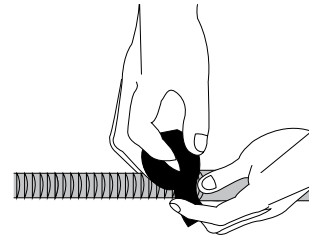

FIG. 4.11
3. Wrap the connection point firmly with tape to ensure a good seal and to prevent leaks. (See Fig. 4.11)